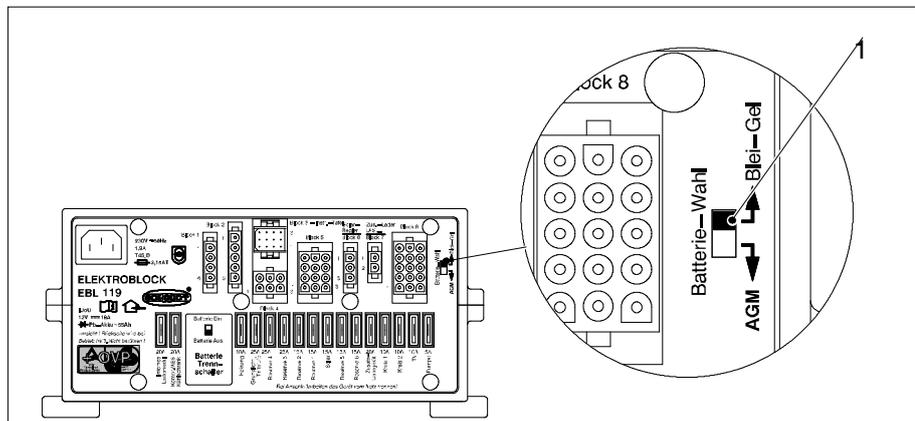

Fig 1 Battery selector switch
- Move the battery selector switch (Fig. 1, Pos. 1) to the correct position using a thin object (e.g. a ballpoint pen):